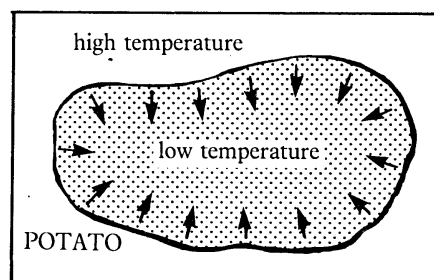

Figure 1 Conduction of heat to the centre of a potato
- (a) *Conduction* The flow of heat through a substance from places of higher temperature to places of lower temperature, without the substance itself moving. Conduction allows heat to travel to the centre of a potato when it is cooked (Figure 1).